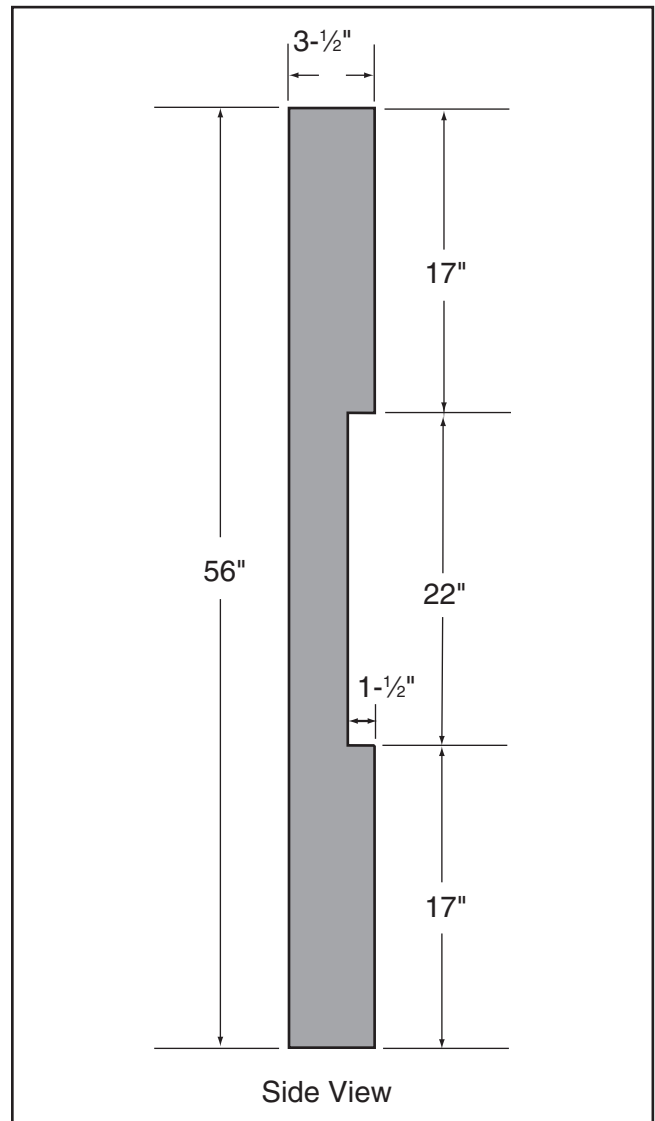

Figure 104. Dimensions of coplanarity gauge.
1. Make the "Coplanarity Gauge" shown in **Figure 104**.